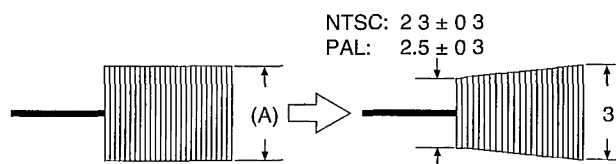
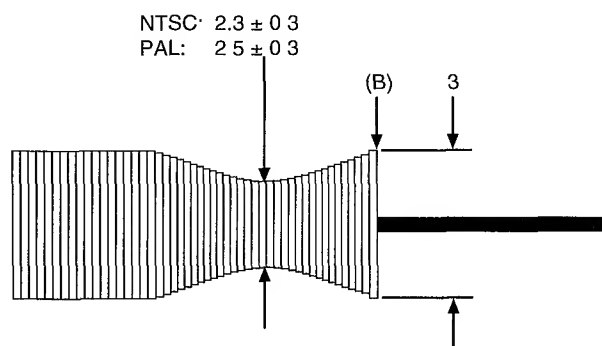

Fig. 4-1
Fig. 4-2
<p>Adjustment procedure</p> <p>Caution: Before performing this adjustment, refer to Fig. 6-1 and modify the ATF-R jig.</p> <ol style="list-style-type: none"> <li>Load the alignment tape which has been completely rewound, and holding down the playback button, supply a DC power source (7.2 V). Set the power switch of the camcorder to OFF at this time.</li> <li>Connect an oscilloscope to TP3 on the ATF-R jig.</li> <li>Synchronise the oscilloscope with TP1(SW25/30) on the ATF-R jig.</li> <li>Set the oscilloscope to (+) slope.</li> <li>Press SW2 on the ATF-R jig and hold it, then perform the following steps.</li> <li>Adjust the voltage level control of the oscilloscope so that portion (A) of the waveform is set to 4 graduations.</li> <li>Set SW1 on the ATF-R jig to ON.</li> <li>Turn RT1 on the ATF-R jig counterclockwise so that portion (A) of the waveform is set to 3 graduations.</li> <li>Adjust the height of the supply guide roller so the minimum amplitude of the waveform is set to NTSC: <math>2.3 \pm 0.3</math> / PAL: <math>2.5 \pm 0.3</math> graduations. (See Fig. 4-1)</li> <li>If this cannot be confirmed, adjust the height of the supply guide roller, referring to "3-3. Supply/ Take-up Guide Roller Height Adjustment".</li> <li>Set the oscilloscope to (-) slope.</li> <li>Turn RT1 on the ATF-R jig counterclockwise so the voltage at point (C) on the ATF-R jig is <math>1.8 \pm 0.1V</math>. Then check that point (B) of the waveform is set to 3 graduation.</li> <li>Check that the minimum amplitude of the waveform is set to NTSC: <math>2.3 \pm 0.3</math> / PAL: <math>2.5 \pm 0.3</math> graduations. (See Fig. 4-2)</li> </ol> <p>If this cannot be confirmed, adjust the height of the take-up guide roller, referring to "3-3. Supply/ Take-up Guide Roller Height Adjustment".</p> <ol style="list-style-type: none"> <li>Perform the following electrical adjustments. <ul style="list-style-type: none"> <li>Head switching point adjustment</li> <li>Record luminance/chroma level adjustment</li> </ul> </li> </ol> <p>Caution: After adjustment is complete, be sure to reverse the modification to ATF-R jig.</p>